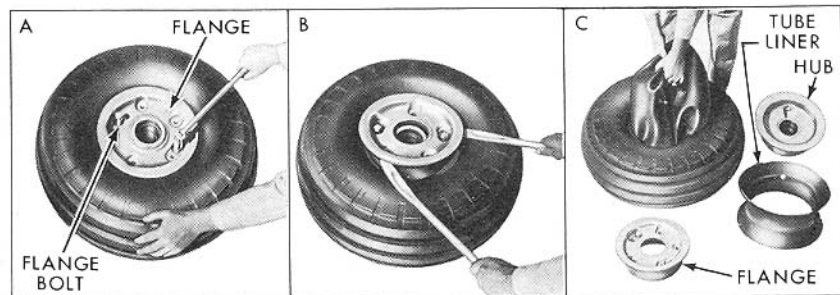

Figure 47
**Tire Removal—Single Front Wheel:** Jack the tractor up sufficiently to free the front wheel. Remove the dust cap, cotter pin, castellated nut and flat washer from the wheel spindle. Remove the wheel and deflate the inner tube completely by removing the valve core. **CAUTION: FAILURE TO REMOVE ALL THE AIR MAY RESULT IN THE RIM HALVES FLYING APART DUE TO AIR PRESSURE.** Remove the five flange bolts and insert two of these bolts in the opposed thread holes of the flange as shown in "A" Figure 47. Turn the bolts in to break the flange from the hub. Use tire irons to remove the flange from the tire (See "B" Figure 47). Lift the tire off of the hub and remove the tube liner and tube (See "C" Figure 47). Remove the two flange bolts from the flange.